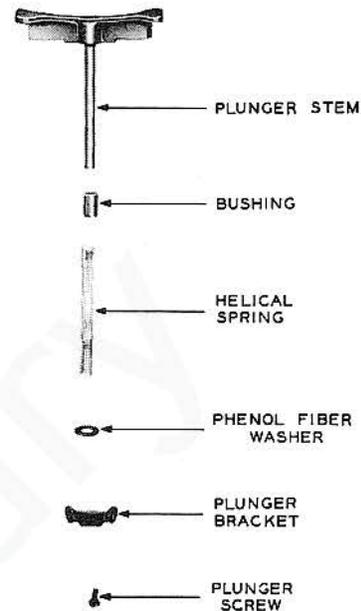

FIG. 6 — PLUNGER ASSEMBLY
4.04 When replacing plunger assembly, the phenol-fiber washer must be placed on the plunger stem prior to the plunger bracket (see Fig. 6).